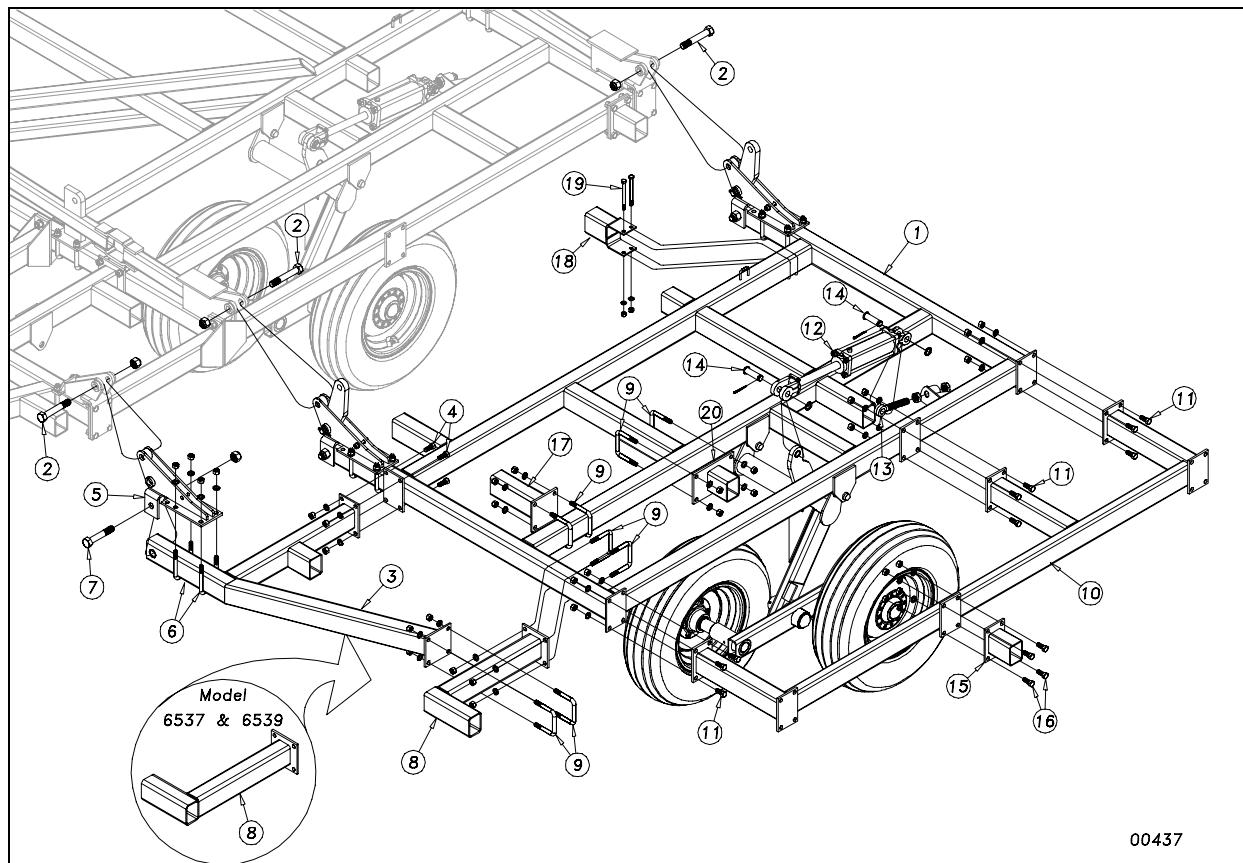

Figure 7
On 5-section models, bolt the outside wing assembly (1) to the inside wing frame with Gr.8, 1 x 6 hex bolts, 1 3/4 thread (2) Figure 7, securing with 1" nylon lock nuts.